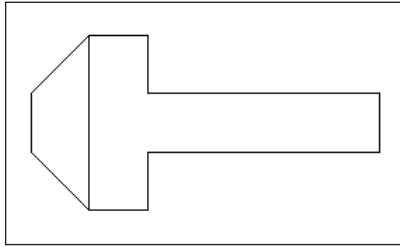

Figure 4-11: The completed drawing of a bolt
17. Save your drawing. It should look like Figure 4-11.